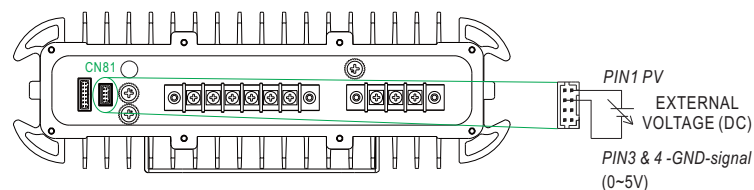

Figure 5-2
1. Connect output of the external DC source to PV and GND-signal, as shown in Figure 5-2. For detailed pin assignment of each type, please refer to chapter 4.